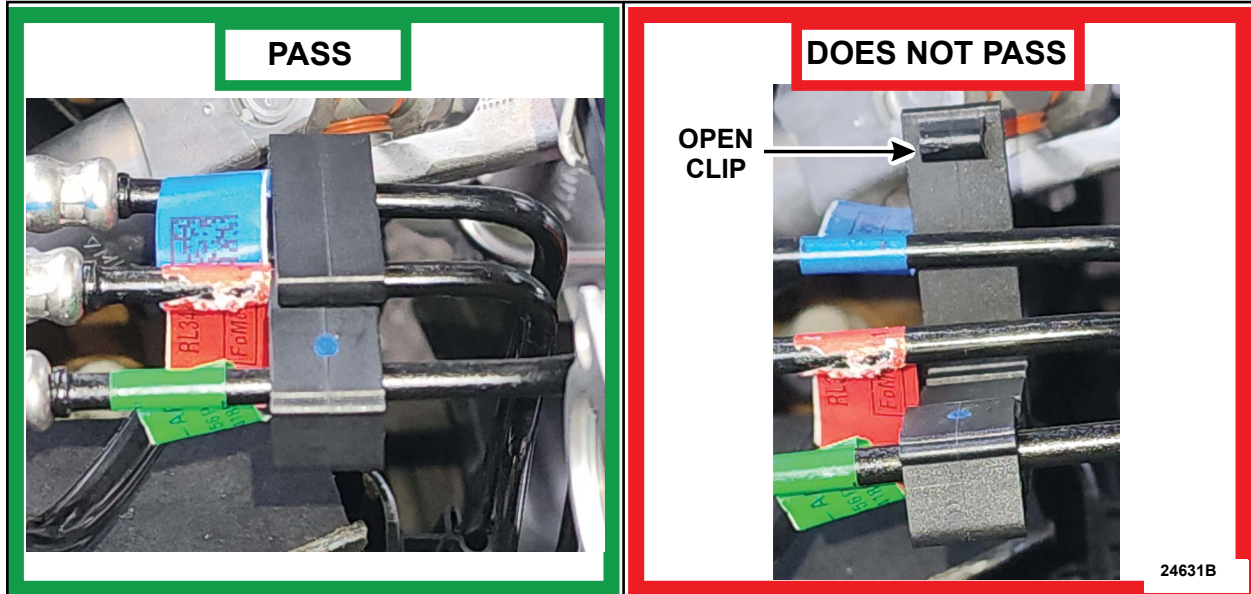

FIGURE 2
3. Are the brake tubes secure inside the clip and is the clip fully clasped? See Figure 2.